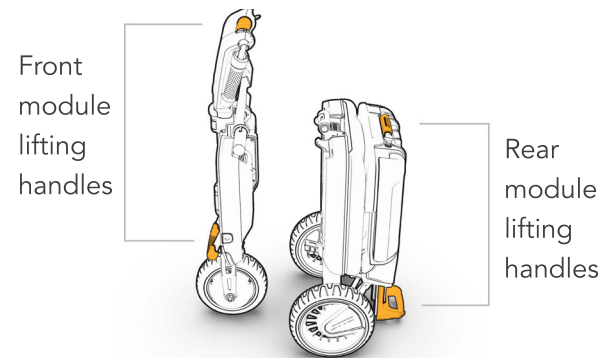

Figure 53 – Lifting points
2. Grab one of the chassis from designated handles and carry it to its destination (See Figure 53).